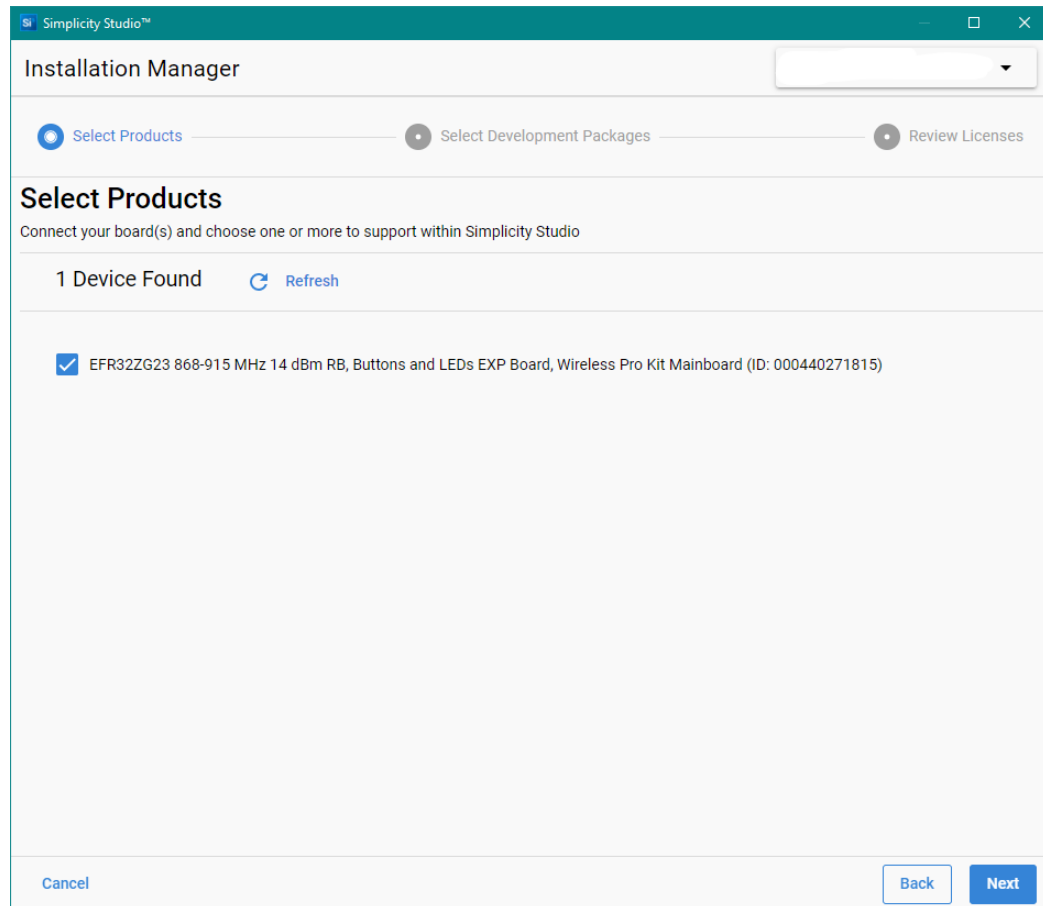

Figure 5: Select Devices to Install the Needed Software Packages
- 7) After some additional items are installed, you are offered the option of installing by device or installing by product group. This guide will be using the *'Install by connecting device(s)'* option, which will install the relevant software based on the connected hardware (if you do not have any hardware connected, you can browse for possible hardware kits, and still get the same easy install experience). See Figure 5. Select your products and click *'Next'*.